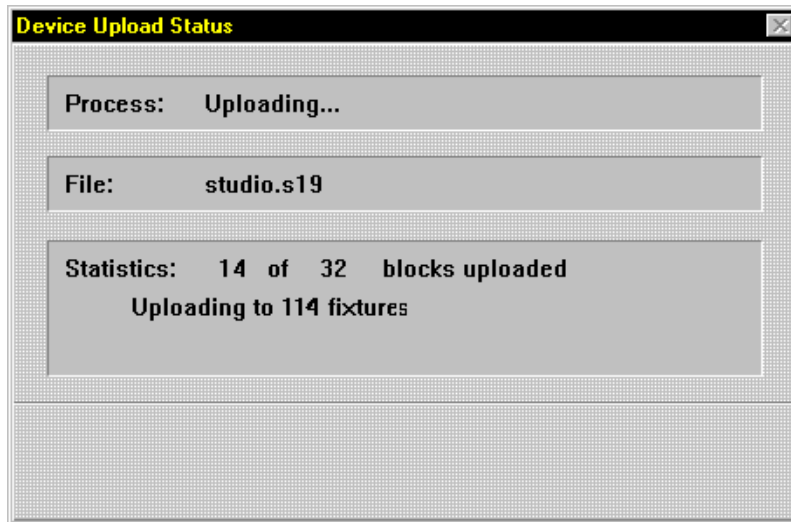

Figure A.3. Device Upload Status Information Window
5. Click the **OK** button to start uploading. This brings up the **Device Upload Status** information box. Refer to Figure A.3. During the upload, the fixture's display will quickly flicker and display `U P L d` to indicate it is uploading. The **Device Upload Status** dialogue box indicates the number of fixtures that are being uploaded and the progress of the upload.